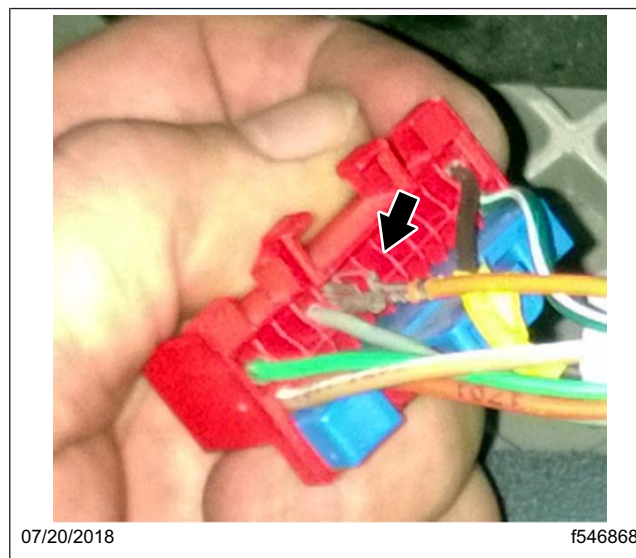

Fig. 8, Inserting the NewWire
15. Route the 50 inch (127 cm) orange wire through dash, and attach it to the pin where wire 376N was removed, then connect the lock. See Fig. 8.